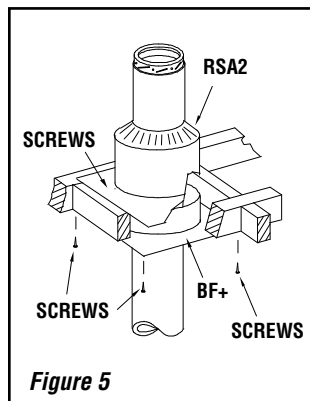

Figure 5
**Step 7.** At the attic level, install a firestop plate (BF+), from below and an attic radiation shield (RSA2) from above (see figure 5). Install the roof radiation shield in the roof joists. This shield consists of four metal plates supplied with the roof flashing. Nail one plate to each side of the joist using (2) - 2 1/2" nails.